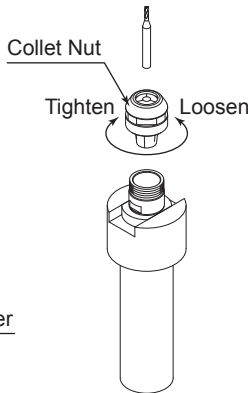

Fig. 11
- (3) Attach the collet and collet nut to the collet holder, and lightly finger tighten. (Do not tighten until the end) (Fig. 11).